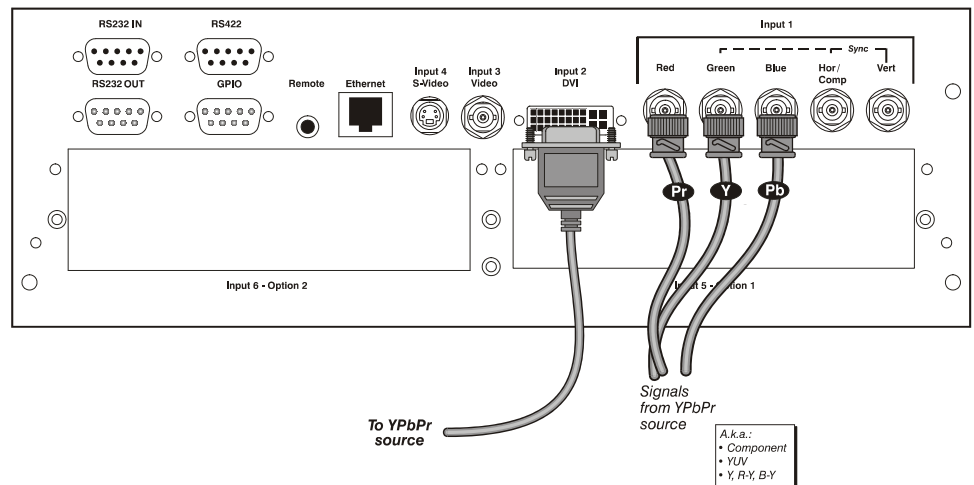

Figure 2.8. Connecting YPbPr sources
- Connect an YPbPr signal (*component video*) to **INPUT 1** or **INPUT 2** as shown in Figure 2.8.